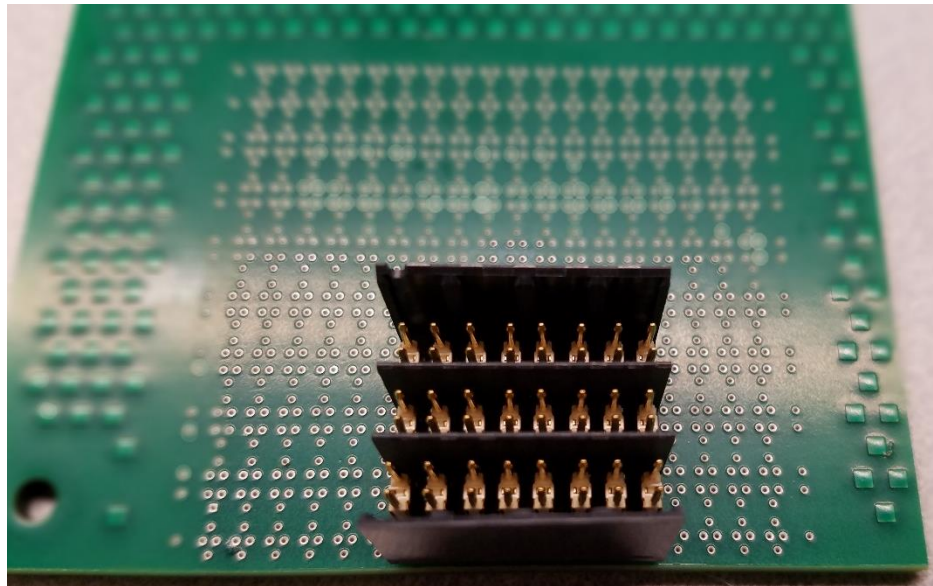

Figure 5: 3 Pair, 8 Position BMA Connector
Step 7. Select the correct seating head assembly based on the pair number and the position of the connector (see Figure 5). Place the flat rock plate (P/N displaying) on top of the selected seating head, aligning the holes on the flat rock plate with the screw holes on the seating head. Place the screws in the screw holes and tighten as seen in Figure 4.